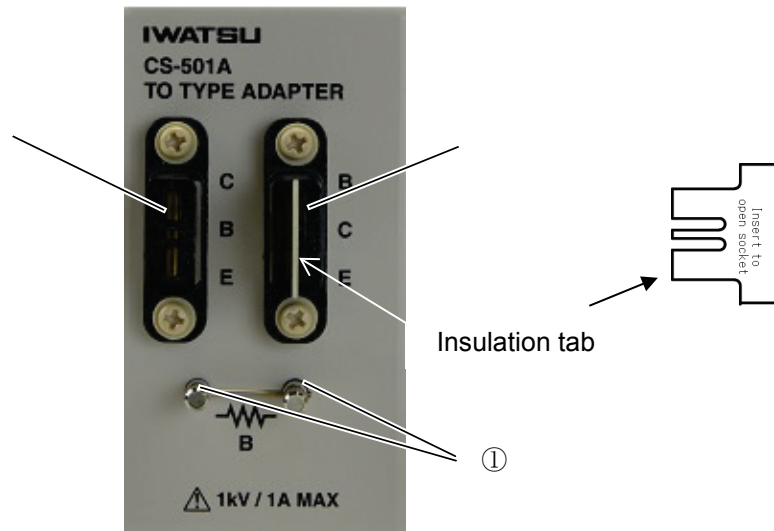
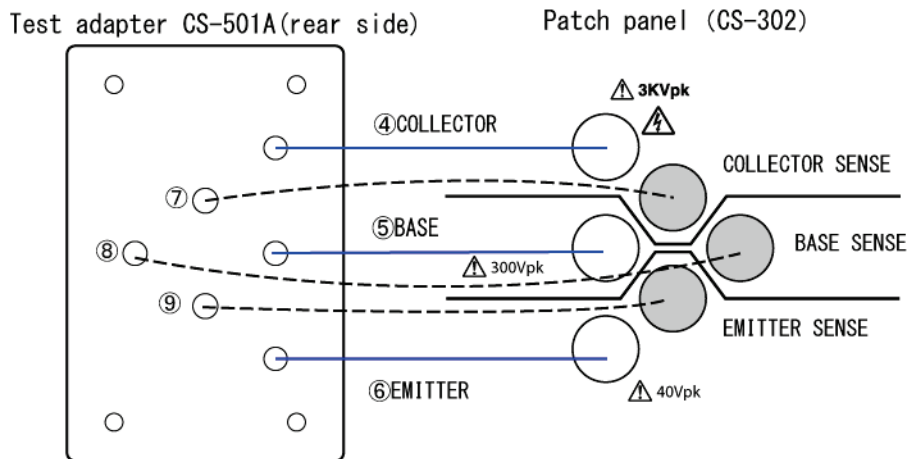

Figure 2.13 Test adapter CS-501A(front side)
Figure 2.14 Test adapter CS-501A (rear side) attached to the patch panel
①	Safety protection switch	When the upper cover of the test fixture opens, no power is supplied to the sample. When closed completely, power is supplied.	Section 3.3.2 Section 3.3.4
②	ADAPTER EXCLUSIVE USE	Terminal to connect the test adapter CS-500, CS-501A to CS-510. (These are options. Excluding CS-508)	Section 2.4 Section 2.6 to 2.10, 2.12
③	AUX	Output terminal of external voltage	Section 3.11.6
④	AUX GROUND	Ground terminal of external power voltage	Section 3.11.6
⑤	Cushion (for upper cover)	It mitigates the shock when the upper cover is closed.	—
Figure 2.13 shows the test adapter CS-501A (front side) of this instrument and Figure 2.14 shows the connection diagram between the test adapter CS-501A (rear side) and the patch panel. The summary about part names and functions is presented in Table 2.12 of next page. The test adapter CS-501A (TO type adapter) is the optional instrument and can be mounted on either of test fixtures CS-301 and CS-302. One insulation tab (Figure 2.13) is attached to test adaptor CS-501A. (When buying it, insulation tab is inserted in the socket of ② or ③ of Figure 2.13 like the dotted line.)
- For an accurate measurement, insert an accessory insulation tab in the socket (② or ③ of Figure 2.13) that doesn't connect the measurement element while measuring.